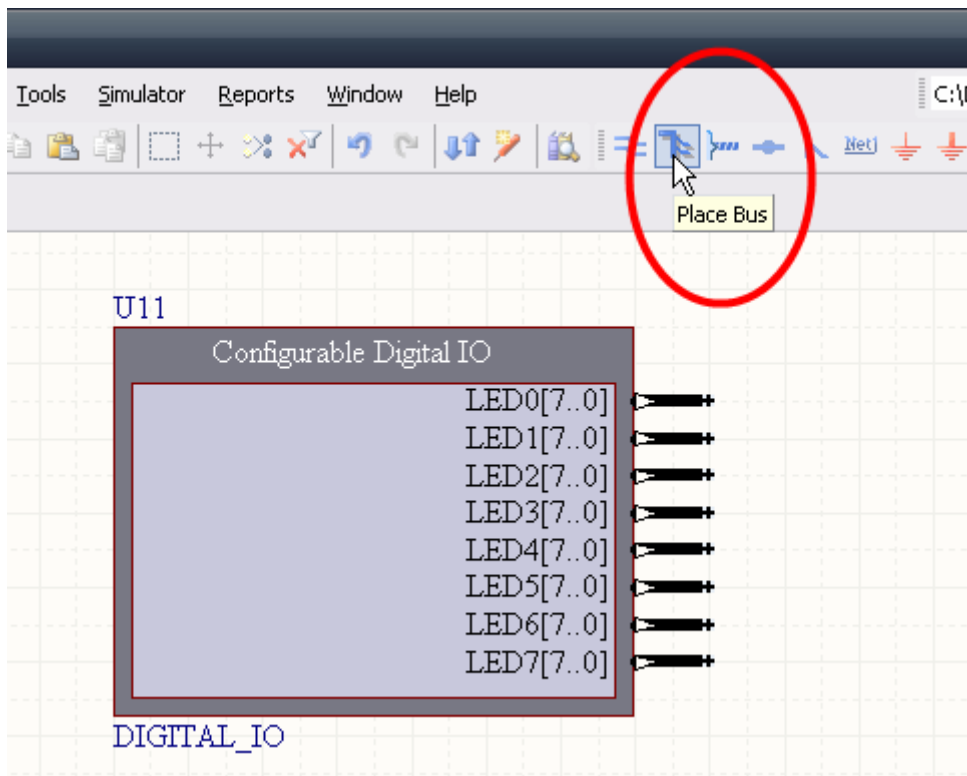
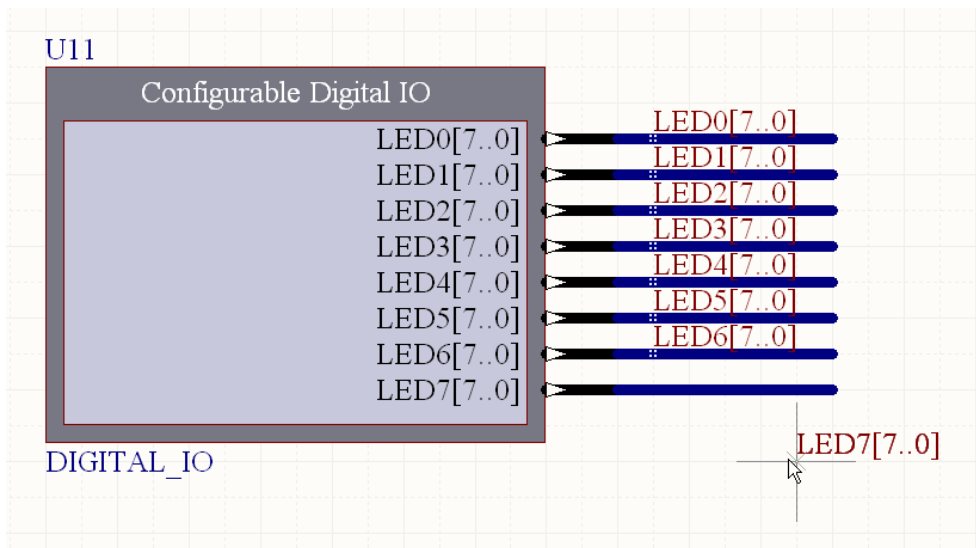

Figure 4. The Digital IO instrument has been configured, ready for wiring.
Figure 5. Place a net label on each of the bus lines.
19. Click OK to close the dialog, the DIGITAL\_IO component will now look like Figure 4.
20. Click the Place Bus button (as shown in Figure 4), and place a short straight length of Bus line (approximately 3 to 4 times the length of the pin) out from each of the pins on the DIGITAL\_IO component, as shown in Figure 5.
23. After placing the first net label, another will appear floating on the cursor. Press **Tab** again to edit the value, changing it to LED1[7..0]. Close the dialog and place the second net label below the first one you placed, as shown in Figure 5.
24. Continue to edit and place net labels on each of the bus lines, until they are all labelled, as shown in Figure 5.